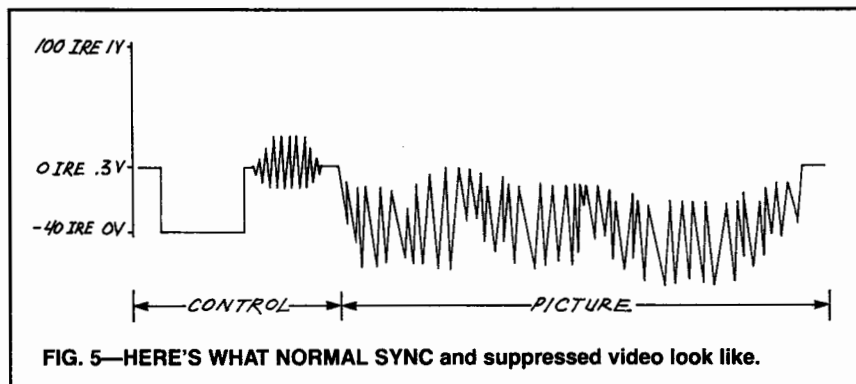

FIG. 5—HERE'S WHAT NORMAL SYNC and suppressed video look like.
- Normal sync and suppressed video (Fig. 5).